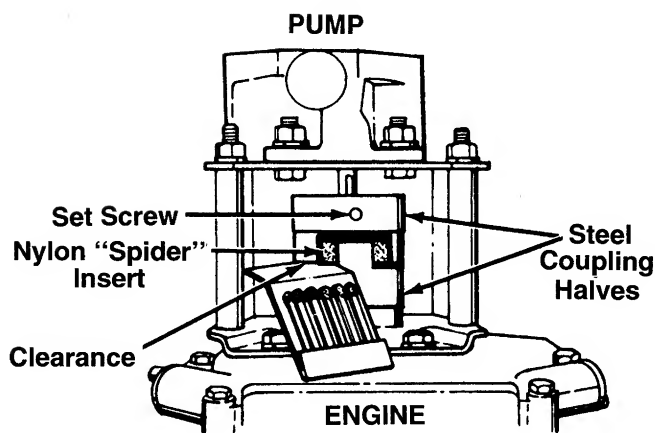

FIGURE 17.—Bottom View
7. Adjust the two coupling halves (steel) so there is between .010" and .060" clearance between the two halves (at least the thickness of a matchbook cover, up to 1/16" maximum). See figure 17. Tighten the set screw in the coupling half on the pump shaft.